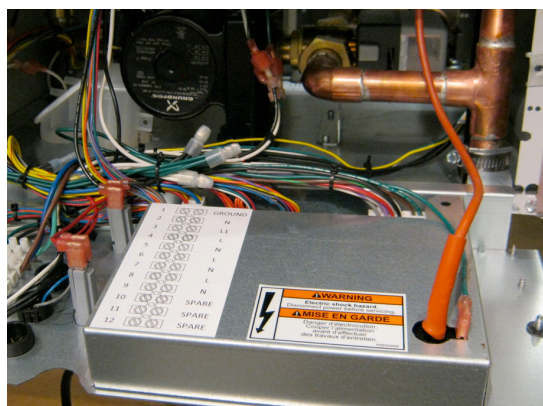

Fig. B30-2 - Removing the Metal Cover
6. You will notice a metal cover that protects the back of the control board. See Fig. B30-2. Disconnect the large red and small green wires for the direct spark ignition. Remove the two Phillips-head screws that hold the metal cover in place, then remove the cover.